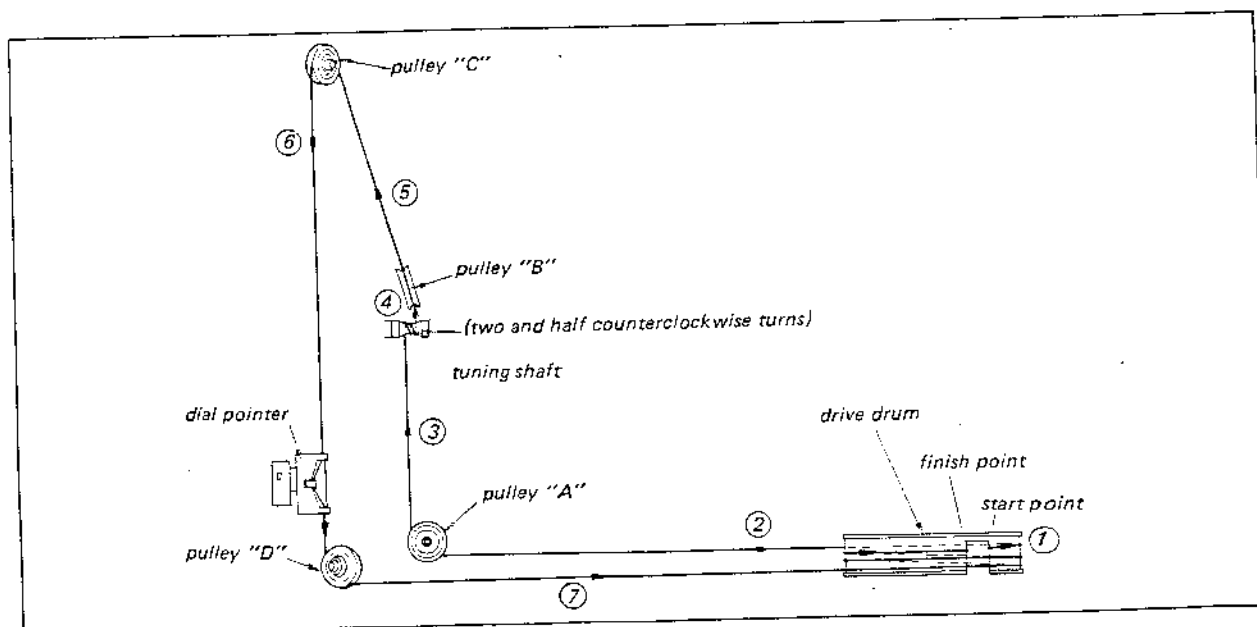

Fig. 2-6. Dial cord stringing
While referring to Fig. 2-6, proceed as follows:
2. Run the cord through the slot in the rim of the drum and wrap half clockwise turn as shown in Fig. 2-6.
4. Run the cord over pulleys "B", "C" and "D" then wrap two clockwise turns around the drum from outer groove to inner groove as shown in Fig. 2-6.